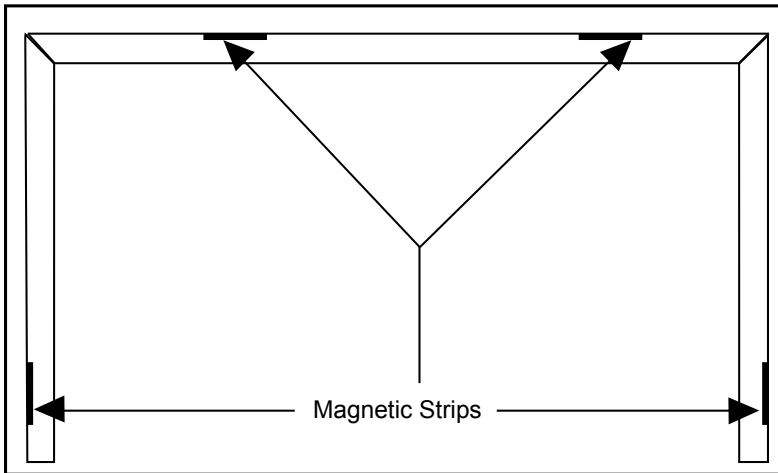

Figure 45: Magnet placement on trim.
1. Remove the backing off the magnets and stick them inside the trim pieces as shown in Figure 45.